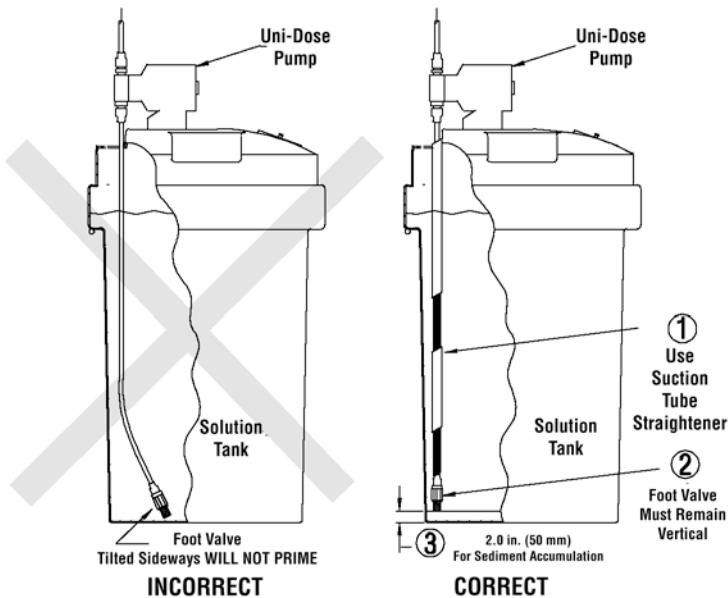

Figure 9: Foot Valve Position
3. Place foot valve, tubing and suction tubing straightener into the solution tank. Check that the foot valve is vertical and approximately two (2) inches (50 mm) from the bottom of the tank or drum (see figure 9). Connect the other end of the tubing to the suction side of the pump head (bottom side).